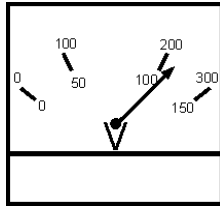
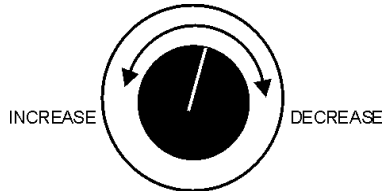

Figure 23. Voltage Meter (Volts)
Figure 24. Voltage Adjust Control Knob
13. The generator's voltage meter (Figure 23) displays the 120 VAC in **VOLTS**. If the voltage is not within the specified frequency tolerance, use the voltage adjustment control knob (Figure 24) to increase or decrease the desired voltage.